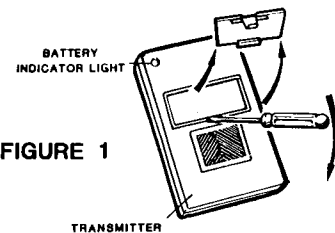

FIGURE 1
1. Open transmitter access door as shown in Figure 1.